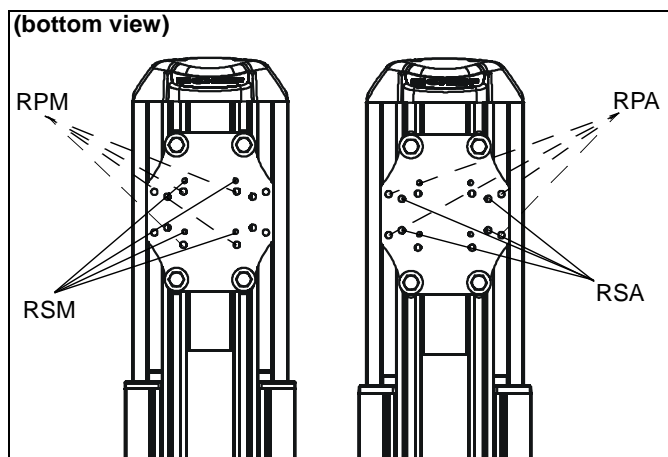

Figure 17
NOTE: Determine hole configuration to use for each specific projector mount. (See Figure 17)
1. Line up mounting holes on RPM mount with corresponding holes on projector mounting plate. (See Figure 17)
1. Line up mounting holes on RSM mount (X) with corresponding holes on projector mounting plate. (See Figure 17)
1. Line up mounting holes on RPA mount with corresponding holes on projector mounting plate. (See Figure 17)
1. Line up mounting holes on RSA mount with corresponding holes on projector mounting plate. (See Figure 17)